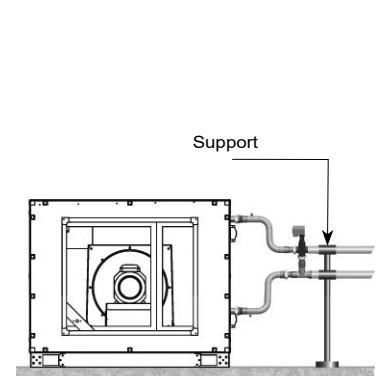

Fig. 2
- The hydraulic control valve kits must be supported close to their point of connection on the unit (Fig. 2)
- A COUNTER FRAME must be fitted*: **Fig. 2**
Example (identical to Fig. 2) of stacked units